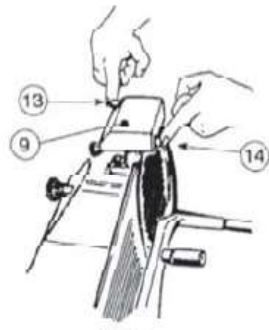

Fig. 2
- Loosen the locking knob (12) on the sharpener group.
- Raise the sharpener group, turning it by 180° so that both grinding wheels are in working position. See Fig.2.
- Lower the sharpener group until it locks, during this procedure press button (13) to bring the sharpening wheel into contact with the cutting edge of the blade.
- Secure the group by turning the locking knob (12).
- After having verified the presence of burr, switch on and gently press button (14) for about 3 seconds to remove the burr produced during sharpening in (In this last phase, both grinding wheels will be working).
- Turn the graduated knob (6) back to position 'o'.